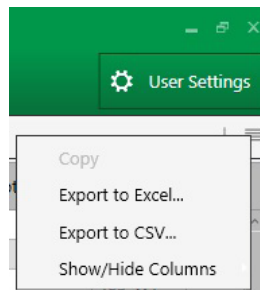

Fig. 18. Data table dropdown menu.
1. In the Data Table tab, select the dropdown menu in the upper right corner. Click on Export to CSV... and save the file. Refer to Figure 18 to locate the dropdown menu.